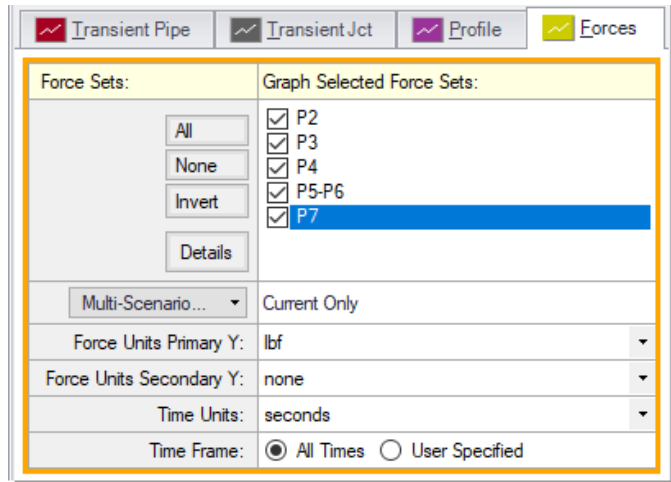

Figure 5.9 Graph parameters for force sets
1. Select the Forces tab on the Graph Control tab on the Quick Access Panel, as shown in Figure 5.9.